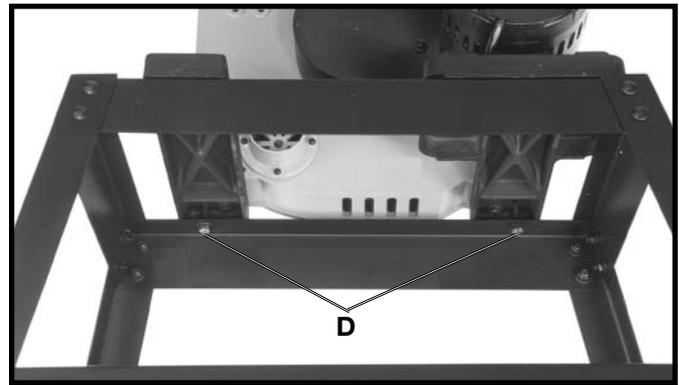

Fig. 6
3. Place a M8.4 flat washer onto a M8x1.25x45mm hex head screw. Insert the screw through the hole (D) Fig. 6, in the stand and thread screw into the tapped hole in the band saw and tighten securely. Repeat this process for the remaining hole in stand and threaded hole in the band saw and tighten securely.